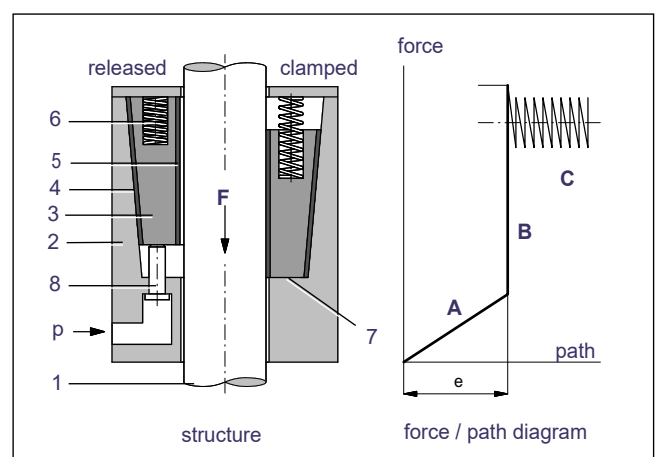

Fig. 1: Design principle
The Safety Catcher secures the load as soon as pressure is released from the plungers (8), Fig. 1. Then the action of the springs (6), Fig. 1 causes the clamping jaws (3), Fig. 1 to clamp the rod (1), Fig. 1 firmly, whereby an initial friction contact between rod and clamping sleeve is achieved (contact condition).
The clamping jaws (3), Fig. 1 are drawn into the clamping position at their stops (7), Fig. 1 after having moved the distance "e", Fig. 1 (approx. 5 to 15 mm, depending on design). This movement is illustrated as phase A in the force/path diagram, Fig. 1.
If the load is increased further (phase B, Fig. 1), the rod remains in its clamped position, independent of the load, until the static holding force F^* , Fig. 1 is reached. As soon as this limit is exceeded, the Safety Catcher (phase C, Fig. 1) generates a mean dynamic braking force F (holding force), Fig. 1 and thus dissipates the kinetic energy of the falling mass.